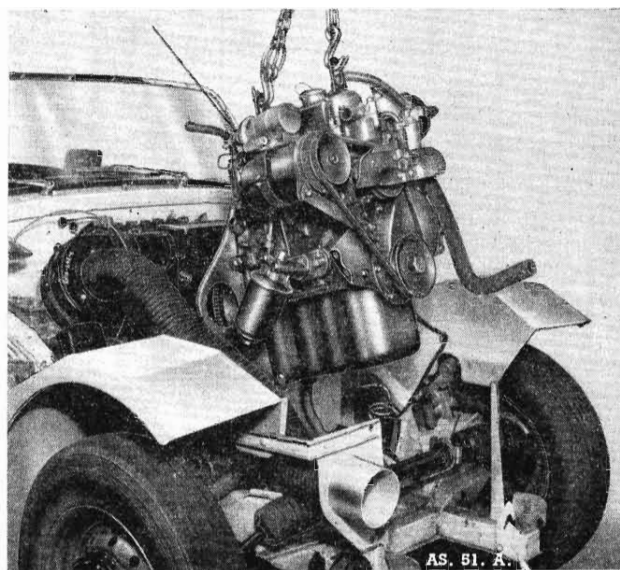

Fig. A.2. Showing the engine being removed at the correct lifting angle.
- (12) Remove the starter as described in the Electrical System.
- (13) Disconnect the petrol (gasoline) inlet pipe at the fuel pump union.
- (14) Release the clamp attaching the exhaust manifold to the down pipe.
- (15) Attach lifting tackle as illustrated in Fig. A.2.
- (16) Place a suitable jack beneath the vehicle to support the gearbox and unscrew the nuts, bolts and setpins securing the gearbox bell housing to the engine backplate.
- (17) Remove the four nuts and spring washers securing the engine front mounting bracket to the chassis frame.
- (18) Ascertain that the engine mounting bracket is clear of its mounting studs by jacking the gearbox and at the same time lifting the engine.
- (19) Hoist and pull the engine forward to disengage the gearbox first motion shaft splines and lift clear of the vehicle (Fig. A.2).
- (10) By means of lifting tackle, similar to that illustrated in Fig. A.2, support the engine.
- (11) Remove the four nuts and spring washers securing the engine front mounting bracket to the chassis frame.
- (12) Hoist the engine, gearbox and propeller shaft, and at the same time pull the whole assembly forward clear of the vehicle.